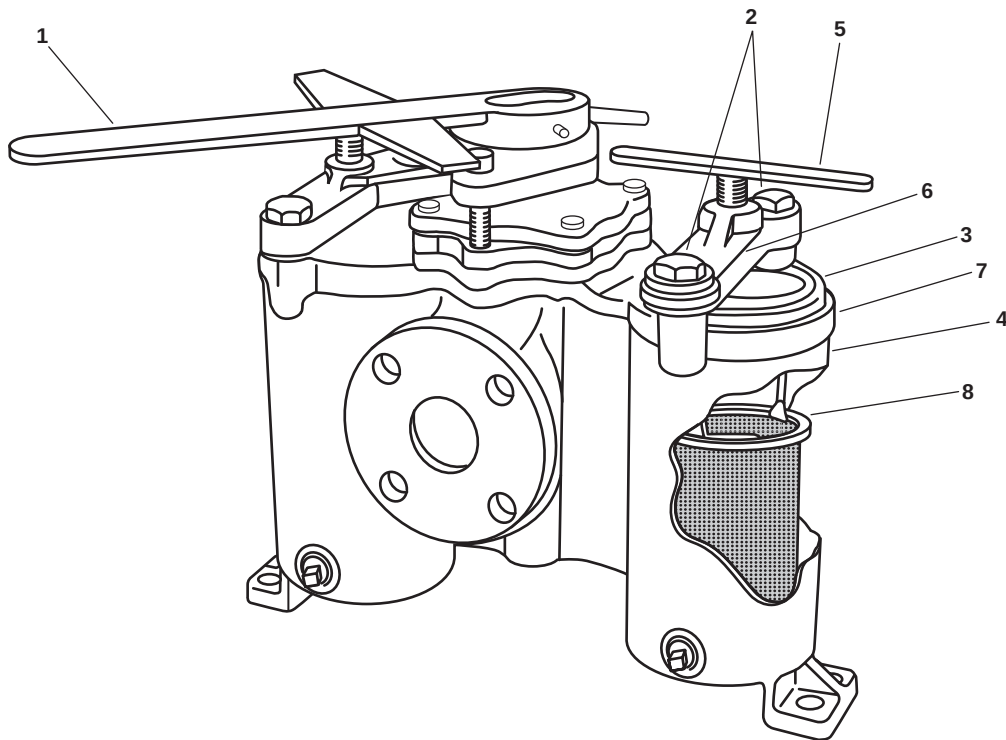

Figure 3. Duplex Strainer
1. Place the clean side of the duplex strainer online using the strainer selector handle (figure 3, item 1).
2. Slowly loosen, but do not remove, the two bolts (figure 3, item 2) securing the cover (figure 3, item 3) to the strainer (figure 3, item 4) being serviced.
4. Loosen the T-handle (figure 3, item 5) and remove the locking bar (figure 3, item 6) and the cover (figure 3, item 3).
5. Remove the gasket (figure 3, item 7) from the cover (figure 3, item 3). Discard the gasket.
6. Remove the basket (figure 3, item 8) from the strainer (figure 3, item 4). Discard the contents of the basket.
8. Remove any sediment from the basket (figure 3, item 8).
9. Remove any debris from the interior of the strainer (figure 3, item 4) and wipe the inside of the strainer with a clean wiping rag.
10. Inspect the basket (figure 3, item 8) and strainer (figure 3, item 4) for excessive rust or deterioration. Replace any worn parts.
1. Install the basket (figure 3, item 8) into the strainer (figure 3, item 4).
2. Install a new gasket (figure 3, item 7) on the cover (figure 3, item 2).
3. Install the cover (figure 3, item 2) on the strainer (figure 3, item 4), securing it in place with the locking bar (figure 3, item 6).
4. Tighten the two bolts (figure 3, item 2) and the T-handle (figure 3, item 5).